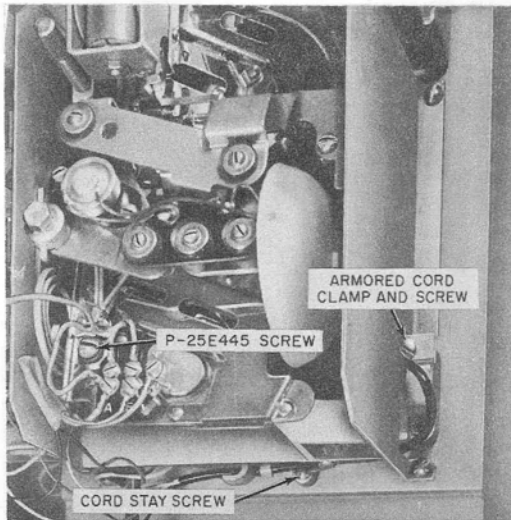

Fig. 6—Location of Cord Stay Screw and Cord Clamp
(3) Loosen P-25E445 screw in lower left corner of chute assembly (Fig. 6). Exercise care not to lose P-12A681 spring located under screw head.
- (1) Remove gong signal and chute assembly (2.04).
- (2) Disconnect handset leads from TB4.
- (3) Loosen cord stay screw (Fig. 6).
- (4) Remove screw and cord clamp from armored cord.
- (5) Pull cord out front of cover.
- (6) Install, using reverse procedure.